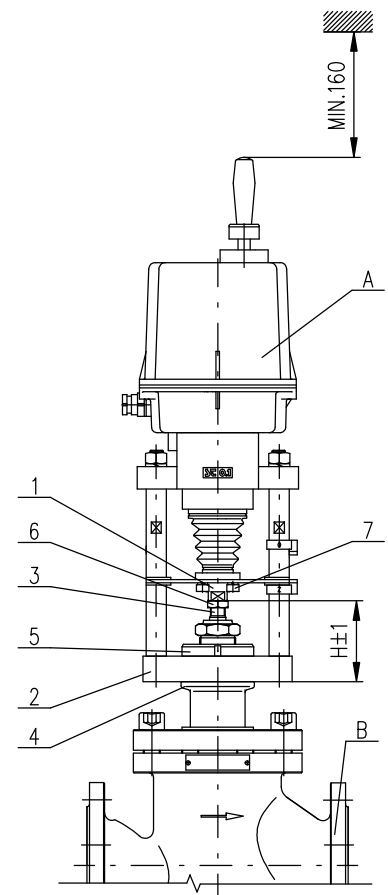

Fig.5
c) Mechanical connection for versions with flange (Fig. 5)